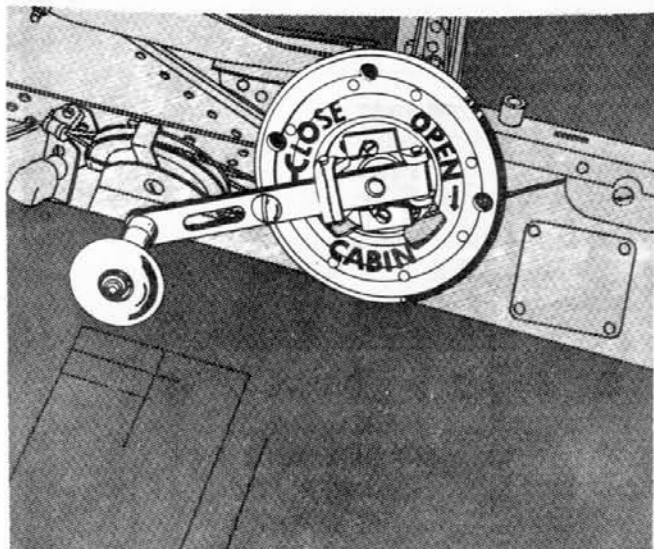

Figure 39 — Pilot's Cabin Crank
(2) **PILOT'S COCKPIT ENCLOSURE.**—The pilot's cockpit enclosure is operated by means of a crank and drum assembly mounted on the right hand sill (see figure 39). Clockwise rotation of the crank